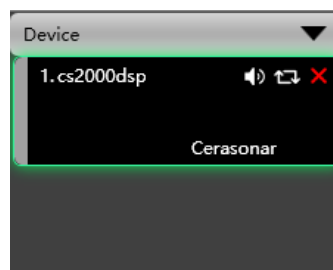

Figure 6.1.2
1. As shown in Figure 6.1.2, the device name, group, and IP can be modified in the upper left corner of the initial interface, and then “device” - “devices” , information can be changed according to actual needs.